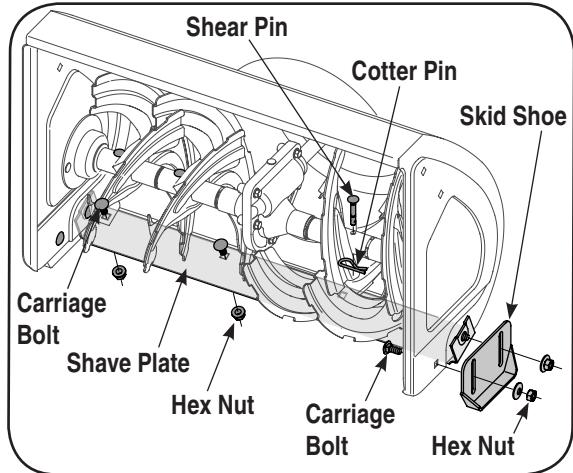

Figure 9
1. To replace, remove two carriage bolts and hex nuts securing each skid shoe to the auger housing. See Fig. 9.
3. **To remove shave plate:** Remove both skid shoes and hardware including carriage bolts, and hex nuts which attach shave plate to the snow thrower housing. For location of shave plate, see Figure 9.
The augers are secured to the spiral shaft with four shear pins and cotter pins. If you hit a foreign object or ice jam, the snow thrower is designed so that the pins may shear. Refer to Figure 9.